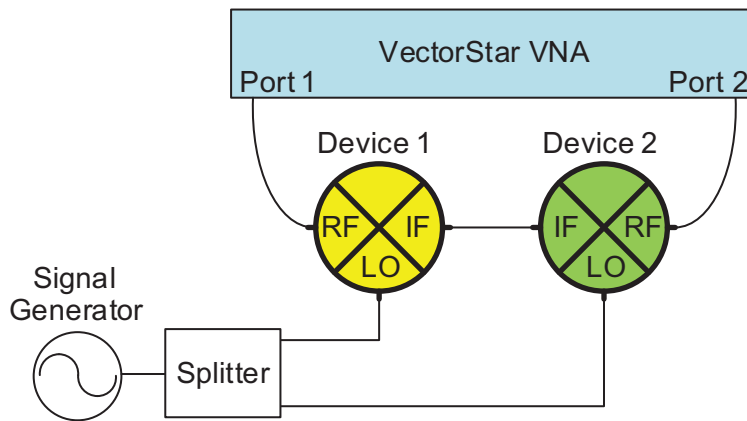

Figure 5: Device Pair 1-2
1. Connect Devices 1 & 2 as shown in Figure 5.